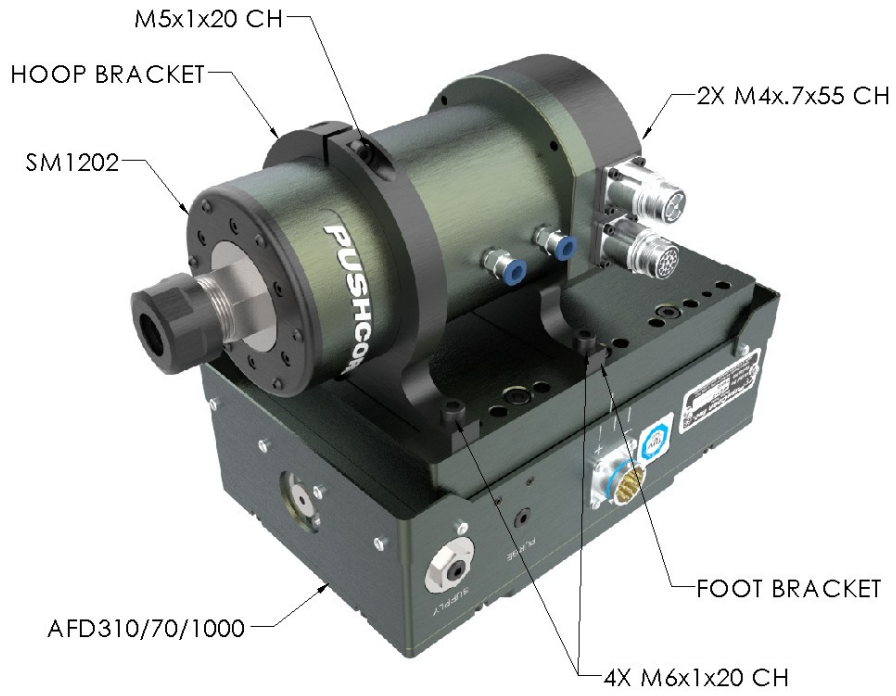

Figure 1: Parallel Mount
The parallel-axis configuration is shown in Figure 1, where the motor attaches to the AFD Carriage with a hoop bracket and foot bracket. The hoop bracket is positioned on the carriage and attached using the two (2) supplied M6x1x20mm socket head cap screws. The motor is then attached to the foot bracket, as shown, with two (2) M4x1x55mm socket head cap screws mounted at the front of the motor housing. The foot bracket is then mounted to the carriage via two (2) M6x1x20mm socket head cap screws. Finally, tighten the M5x.8x20 cap head screw at the top of the hoop bracket. The fasteners must be tightened to the torque specified in Section 4.0.